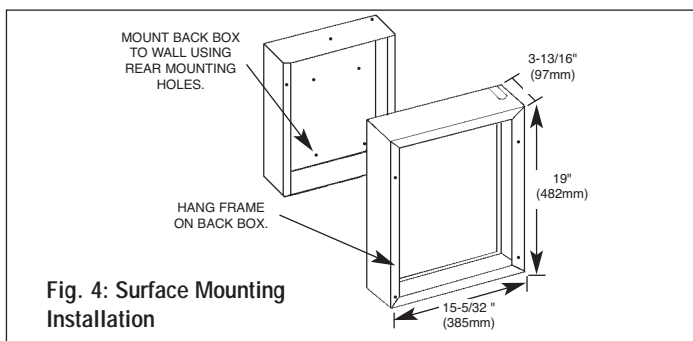

Fig. 4: Surface Mounting Installation
### Installation of Back Box with Optional Surface-Mounting Frame WHSM (See Figure 4)
2. Remove thermostat knob (if provided) and remove front cover (grille) as follows: (See figure 4)